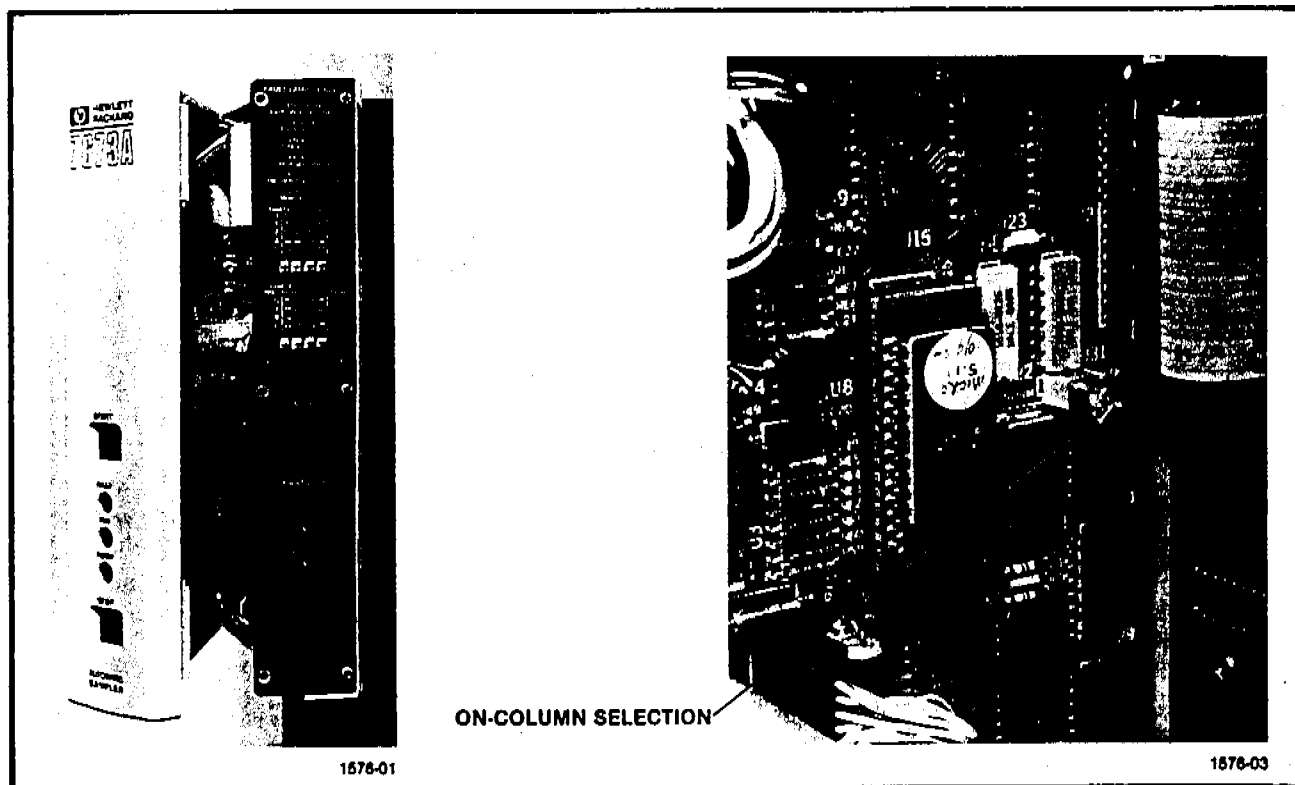

Figure 3-9. Accessing Injector Electronics
5. Swing the panel to the left to expose the injector electronics board (see Figure 3-9).